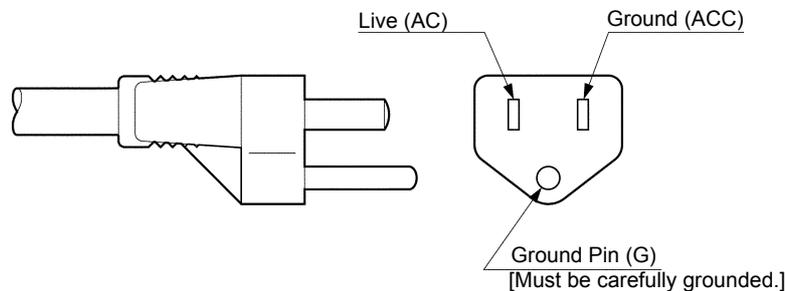

Figure 5.3 • Electrical Plug
The live (AC) and ground (ACC) pins of the plug are arranged as shown in “Figure 5.3 • Electrical Plug”. Connect it to a socket with the same configuration.